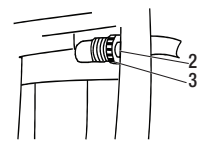

Figure 2
- Attach a garden hose (2) to the drain hose connector (3) on the inside of the dehumidifier. Securely attach the hose to be sure there is no water leak. (Figure 2)
- To connect the drain hose to the unit, push drain hose connector B into the connector A. (Figure 2)
- Remove the plastic nut, sealing bolt and take the filter off. (Figure 2)